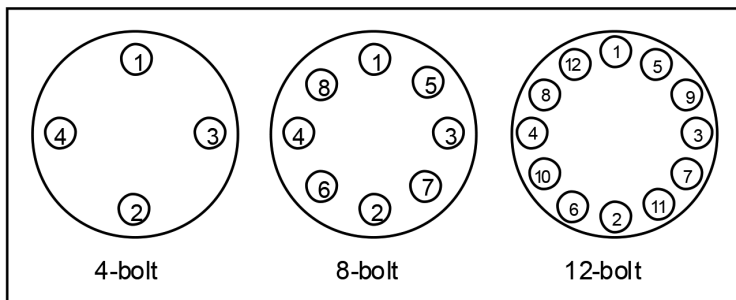

Figure 2-2. Flange Bolt Torquing Sequence
4. Place the remaining studs between the pipe flanges. Tighten the nuts in the sequence shown in Figure 2-2. Check for leaks after tightening the flange bolts.
3. Install bolts in both process connections. Tighten the nuts in the sequence shown in Figure 2-2. Check for leaks after tightening the flange bolts.